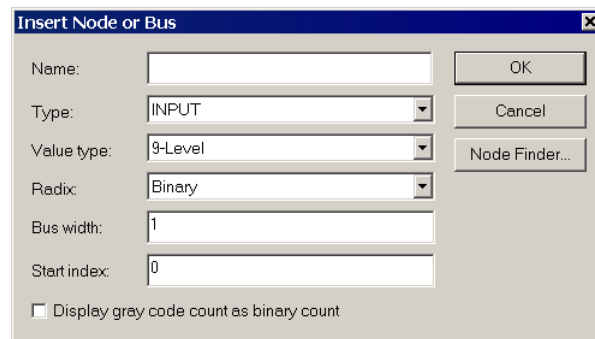
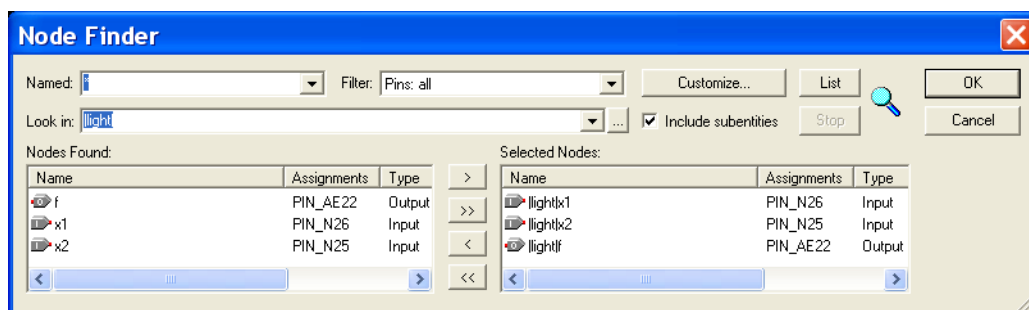
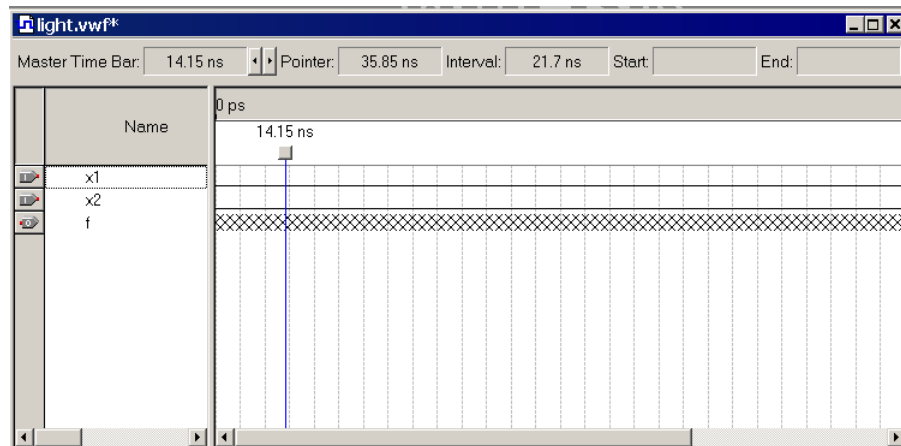

Figure 34. The Insert Node or Bus dialogue.
Figure 35. Selecting nodes to insert into the Waveform Editor.
Figure 36. The nodes needed for simulation.
- Next, we want to include the input and output nodes of the circuit to be simulated. Click **Edit > Insert Node or Bus** to open the window in Figure 34. It is possible to type the name of a signal (pin) into the Name box, but it is easier to click on the button labeled **Node Finder** to open the window in Figure 35. The Node Finder utility has a filter used to indicate what type of nodes are to be found. Since we are interested in input and output pins, set the filter to **Pins: all**. Click the **List** button to find the input and output nodes as indicated on the left side of the figure.
Click on the $x1$ signal in the Nodes Found box in Figure 35, and then click the > sign to add it to the Selected Nodes box on the right side of the figure. Do the same for $x2$ and f . Click OK to close the Node Finder window, and then click OK in the window of Figure 34. This leaves a fully displayed Waveform Editor window, as shown in Figure 36. If you did not select the nodes in the same order as displayed in Figure 36, it is possible to rearrange them. To move a waveform up or down in the Waveform Editor window, click on the node name (in the Name column) and release the mouse button. The waveform is now highlighted to show the selection. Click again on the waveform and drag it up or down in the Waveform Editor.